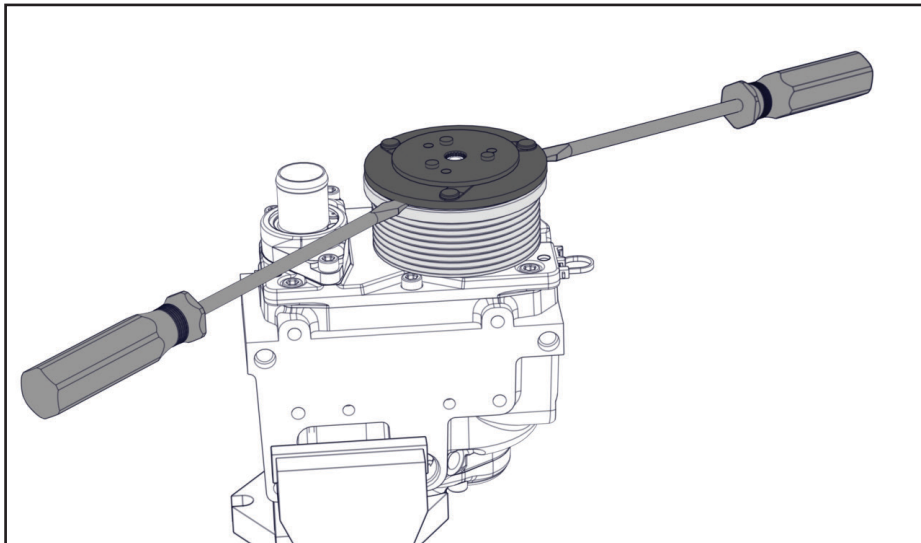

**Figure 2 — Remove clutch bolt**
- ☐ Remove the bolt from the clutch armature (Figure 2).